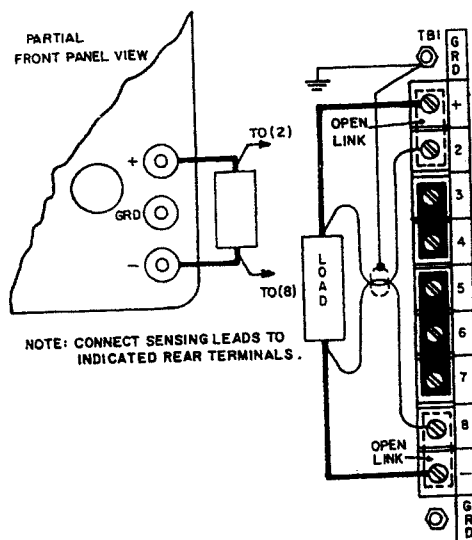

FIG. 3-3 LOAD CONNECTION
3-5 Specified d-c performance directly at the load requires the use of remote error sensing. A twisted, shielded pair of wires from the sensing terminals directly to the load will compensate for load wire voltage drops up to 0.5 volt per wire (Refer to FIG. 3-3). Observe polarities: The negative sensing wire [from terminal (8)] must go to the negative load wire, and the positive sensing wire [from terminal (2)] goes to the positive load wire.